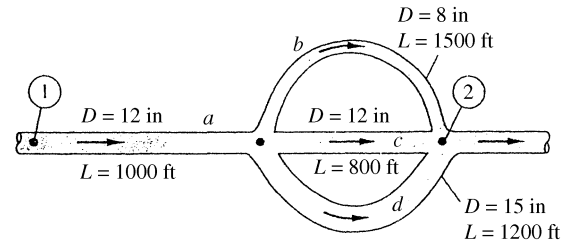

Fig. P6.118
**6.118** For the piping system of Fig. P6.118, all pipes are concrete with a roughness of 0.04 inch. Neglecting minor losses, compute the overall pressure drop  $p_1 - p_2$  in  $\text{lbf/in}^2$ . The flow rate is  $20 \text{ ft}^3/\text{s}$  of water at  $20^\circ\text{C}$ .